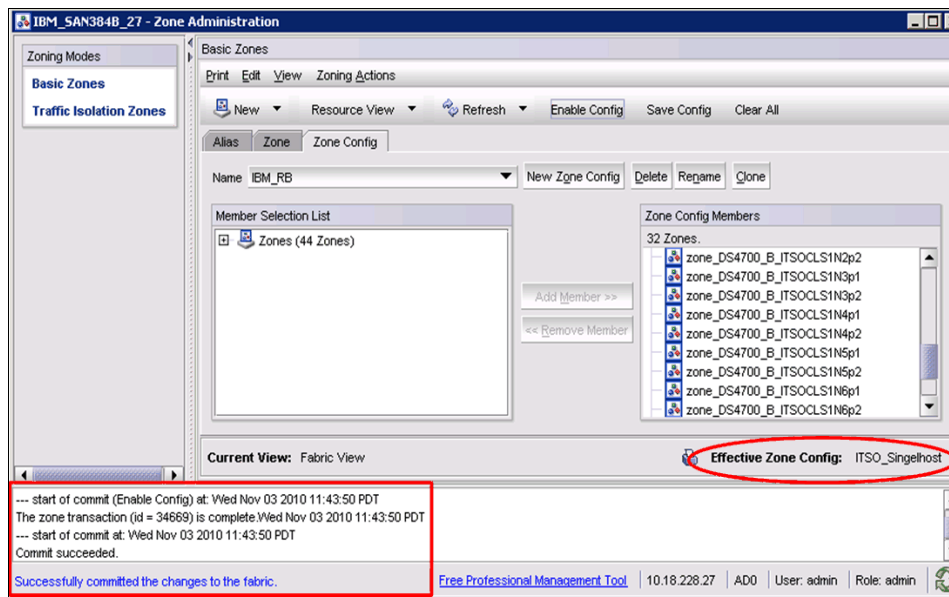

Figure 12-41 Effective zone config
3. The commit process can be monitored and you can wait for the commit to be successful. When the save is complete, the Effective Zone Config is now ITSO_Singelhost (Figure 12-41).